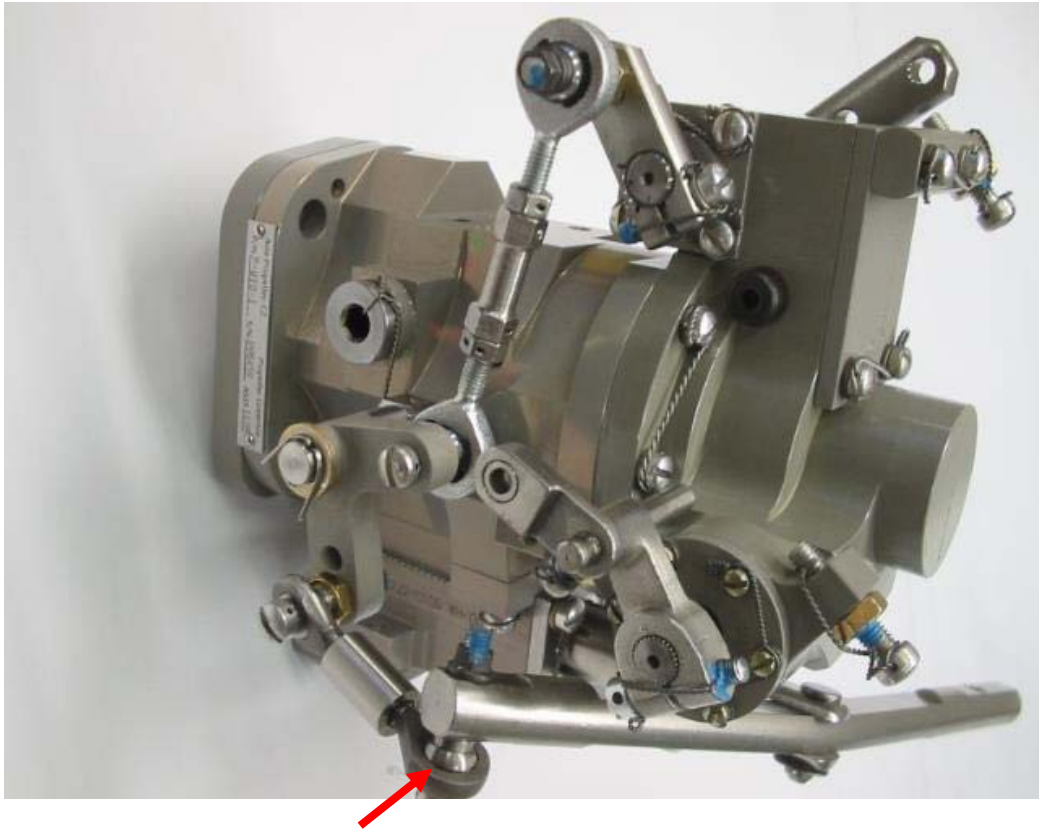

Fig. 1
- Disconnect the BETA feedback lever from the connecting rod - see Fig. 1.
- Connect the BETA feedback lever to the connecting rod - see Fig. 1.